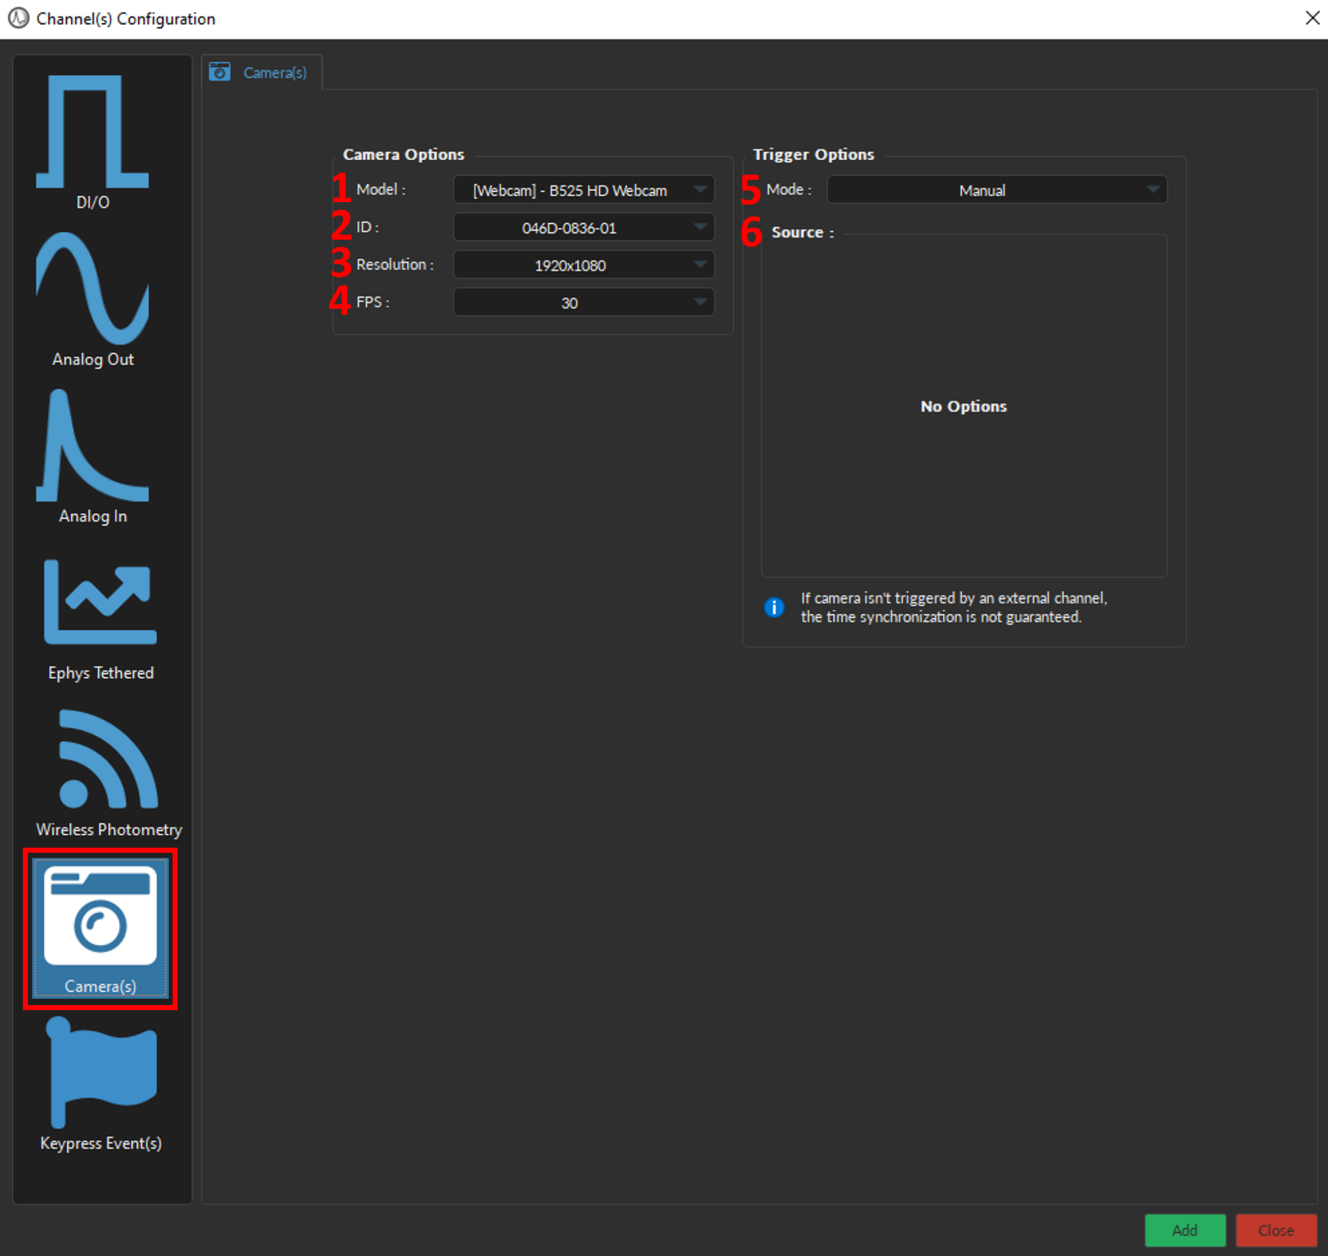

Figure 11.55: Channel(s) configuration window, Camera
1. The **Model** (Fig. 11.55, 1) allows you to select the camera of choice based on the type of camera. Note that a *Doric Behavior Camera* provides DIO synchronization option (such as **External** and **External Preconfigured** modes) that are not available with a typical *USB 3.0 web camera*.
2. **ID** drop-down list (Fig. 11.55, 2) is used to select a camera based on its unique ID. The ID is beneficial when multiple cameras of the same model are required for the experiment.
3. The **Resolution** (Fig. 11.55, 3) is used to set the size of the image. The larger the number of pixels used for width x height, the better the resolution. Currently, image size can range between 160x120 to 1920x1080 pixels.
4. The **FPS** (Fig. 11.55, 4) is used to specify the frame rate of the camera (i.e. the number of images displayed per second). FPS can be any value between 5 to 30 for web cameras and up to 60 FPS for the *Doric Behavior Camera*.
5. The **Mode** (Fig. 11.55, 5) sets the type of trigger that will control the camera. Depending on the type of camera, at most three modes are available:
6. The **Source** (Fig. 11.55, 6 & Fig. 11.57, 6) is only used for the **External (Preconfigured)** mode, and displays the **Digital I/O** channel with the preconfigured parameters that will be created at the same time as the **Camera Channel** (Fig. 11.57). For a detailed description of each Digital I/O parameter see Section 11.6.1. Briefly, key parameters include: